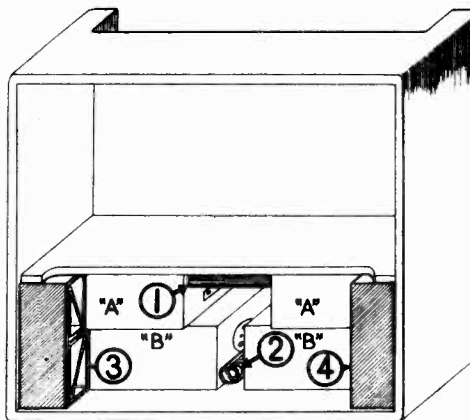

FIG. 1
**Model 207CA.** Place the two "B" batteries on the bottom and the two "A" batteries on the top, in the battery compartment at the bottom of the cabinet with the battery plug sockets facing each other at the center. Insert the long corrugated board piece (1) between the "A" batteries, and the corrugated board roll (2) between the "B" batteries. Insert pieces (3) and (4) at each end as shown in Figure 1. Plug the four prong plug on the battery cable into the socket at the rear of the chassis.